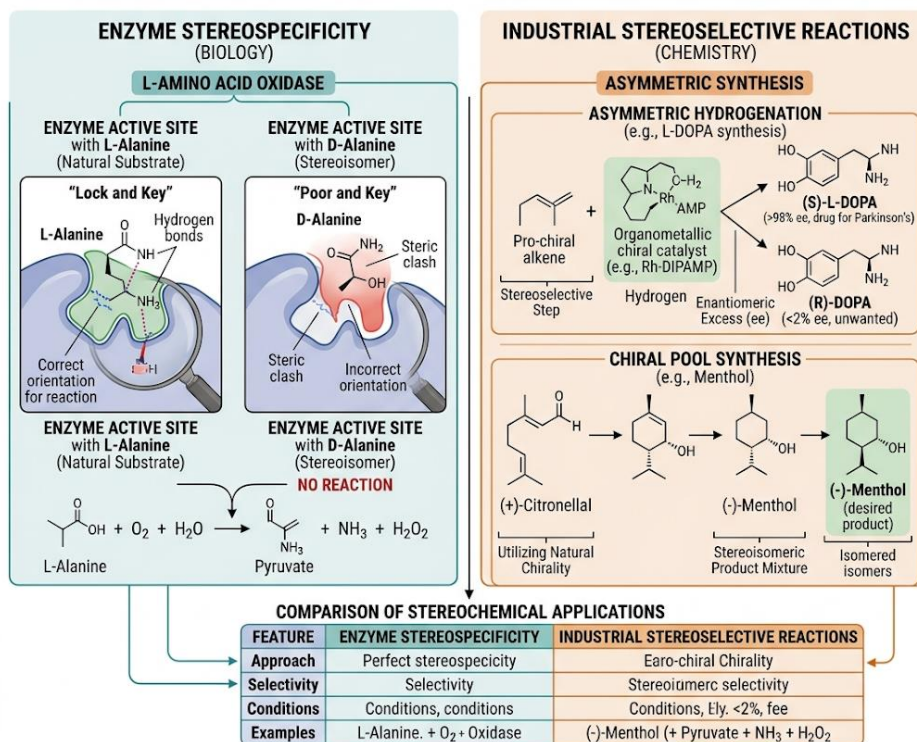

Figure 4.7 Applications of stereochemistry in industry and biology.
- Figure 4.7 Applications in industry and biology (OER diagram).